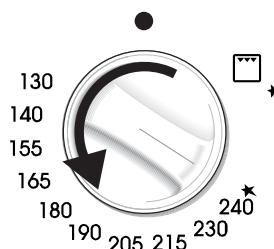

Fig. 2.2
The numbers printed on the control panel or on the knob (fig. 2.2) indicate the increasing oven temperature value (see table below). To regulate the temperature, set the knob to the chosen number. The "FAN ASSISTED GAS OVEN" column refers to the oven burner used in combination with the fan motor (forced convection cooking: only for the "fan assisted" models - models having also the position fan motor, on the oven light/rotisserie control knob), while the "GAS OVEN" column refers to the oven burner used in the normal convection mode (without fan motor). The symbol close to the maximum position indicates that the electric ignition is incorporated into the knob (activated by the knob itself).
- 2 – Lightly press and turn the thermostat knob anti-clockwise to the maximum position ➔ (fig. 2.2). Press the knob firmly until the burner lights.